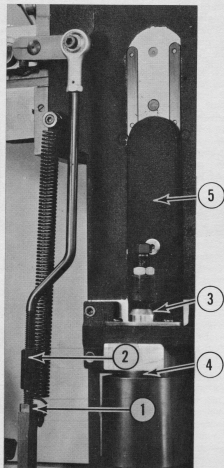

FIGURE 3
Loosen the lock nut (1) and turn adjusting screw (2) up or down to obtain approximately $3/16''-1/4''$ movement during the casting cycle. (See Figures 3 and 4.)